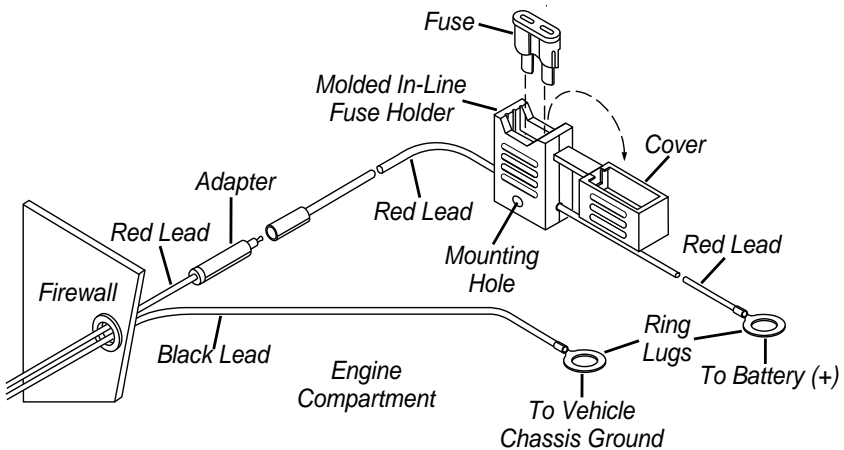

Figure 4 - Power Cable Assembly
5. Install ring lugs (supplied) onto stripped end of power cable black lead, and onto stripped end of red lead on fuse holder. See Figure 4.
6. Locate the fuse holder as close to the battery as possible and away from any hot engine component. Mount the fuse holder using the provided mounting hole and dress wires as necessary. Connect the fuse holder red adapter lead plus to the mating receptacle on the red lead of the power cable. See Figure 4.
9. Plug fuse into in-line fuse holder as shown in Figure 4.